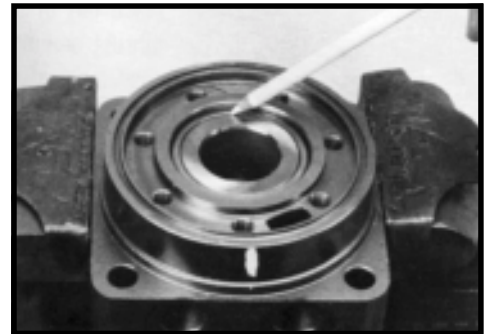

Figure 48
NOTE: The coupling shaft (12) will be flush or just below the housing wear plate surface on Small Frame, Series MG, MF & MP Torqmotors™ when properly seated while the coupling shaft (12) on Large Frame, Series MB and ME Torqmotors™ will be approximately .10 inch (2.54 mm) below the housing wear plate surface to allow the assembly of thrust bearing (11). The coupling shaft must rotate smoothly on the thrust bearing package. SEE FIGURE 48.